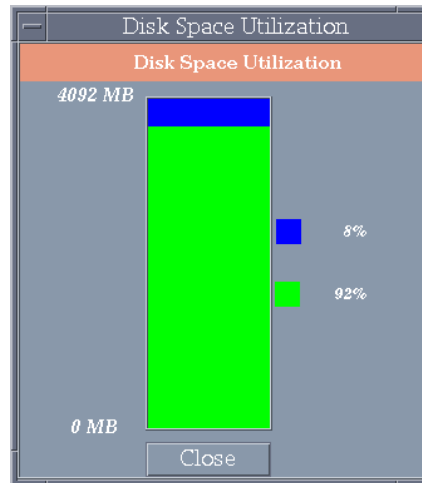

Fig. 47 – System disk usage
- *Disk Usage*: Invokes the Disk Space Utilization Window (Fig. 47), which graphically depicts the percentages of used and available disk space.